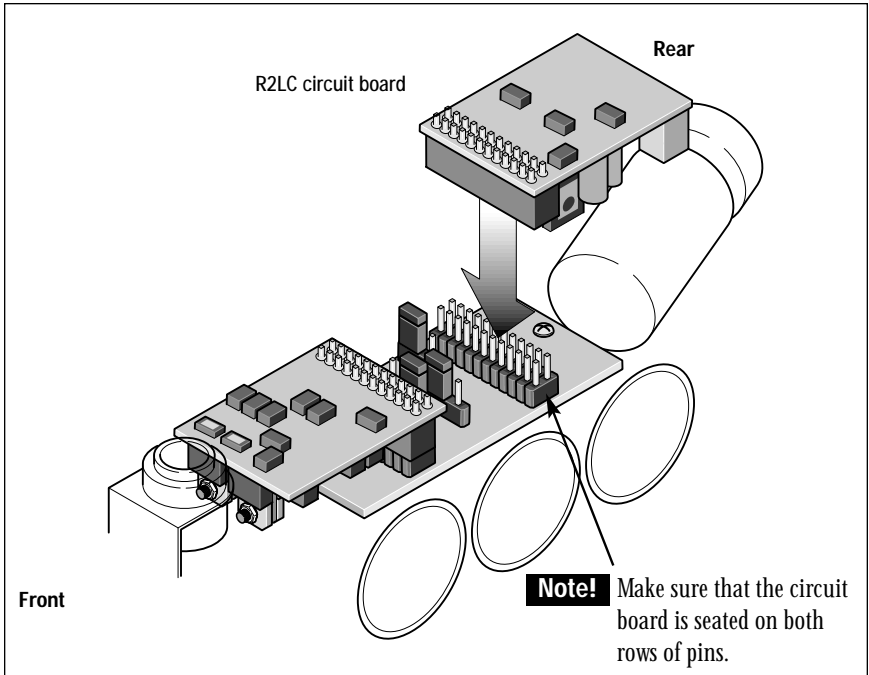

Figure 7. R2LC circuit board installation
6. As illustrated in Figure 7, install the R2LC circuit board into the slot marked RADIO on the motherboard.